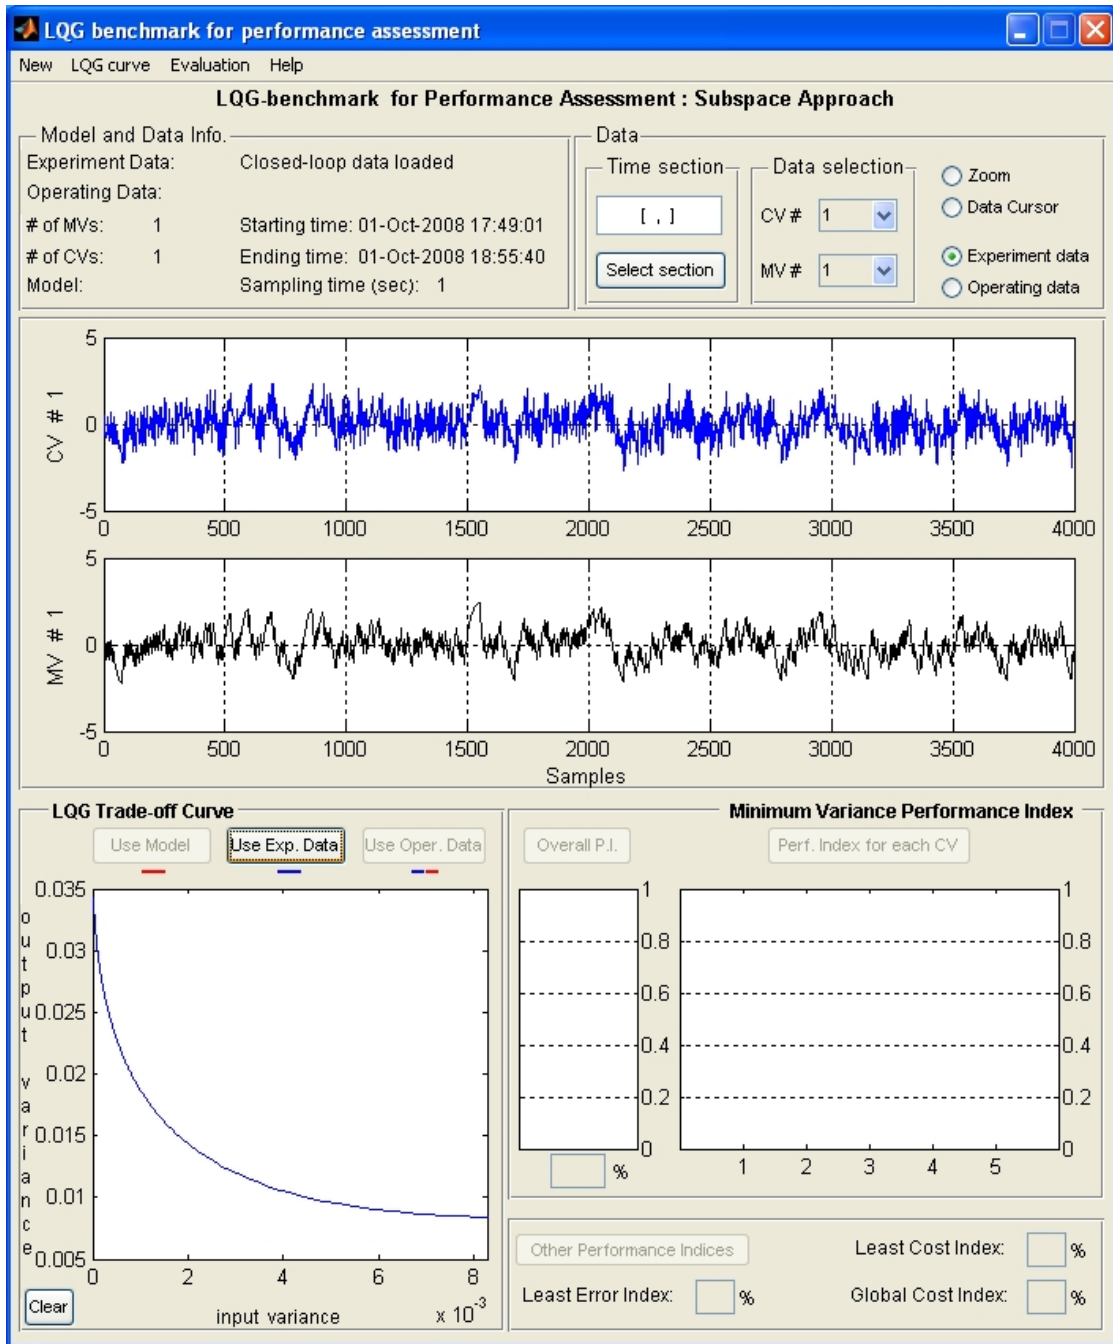

Figure 6: LQG curve estimated form closed-loop experiment data
| Figure 6: LQG curve estimated form closed-loop experiment data .....     | 6  |
- 10) If a set of closed-loop or open-loop experiment is loaded, you can press 'Use Exp. Data' to estimate and plot the curve (in blue) as in Figure 6. Depending on the type of process dynamics, number of inputs and outputs and number of data points, it will need a few seconds to a few minutes to perform the estimation.